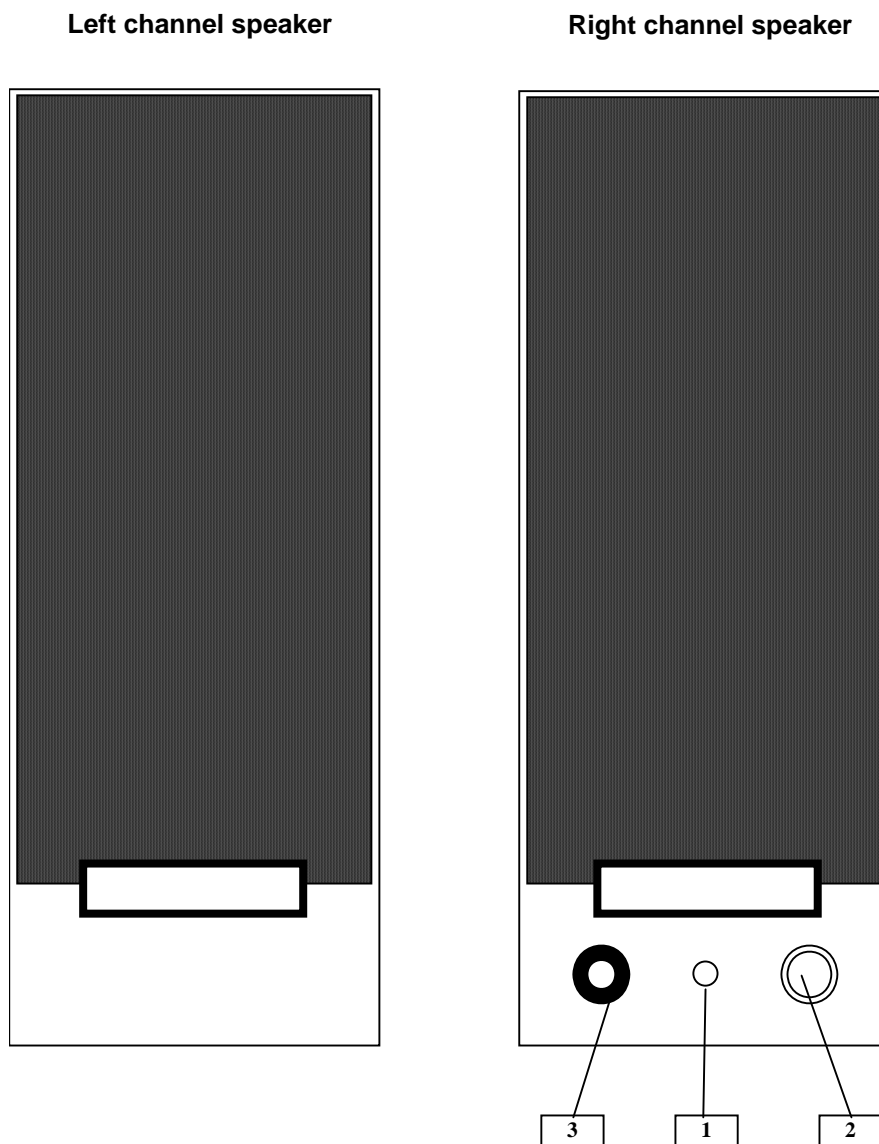

Figure 62 : JBL speakers front panels
- A2 (Indicators) aid: Refer to the front panel LED **Figure 62**.
- To switch ON the SBS270 speakers, turn clockwise the Volume control located on the front panel of the unit (Figure 62). The power indicator comes on.
- To switch OFF the YST-M8 speakers, turn counterclockwise the Volume control located on the front panel of the unit (Figure 62). The power indicator comes off.
The JBL speakers front panel (right channel speaker) includes (See Figure 62) :
- A2 (Indicators) aid: Refer to the front panel LED Figure 62 .
- To switch ON the JBL speakers, turn clockwise the Volume control located on the front panel of the unit (Figure 62). The power indicator comes on.
- To switch OFF the JBL speakers, turn counter clockwise the Volume control located on the front panel of the unit (Figure 62). The power indicator comes off.